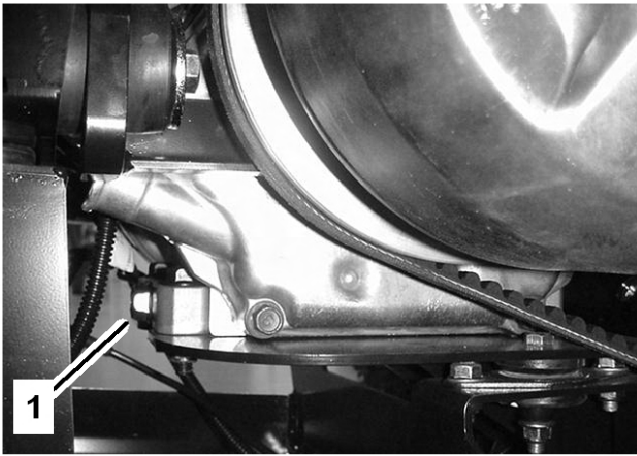

Figure 35
5. Remove the drain plug (Figure 35) and let the oil flow into a drain pan. When the oil has drained completely, install the drain plug and torque it to 13 ft-lb (17.6 N·m).